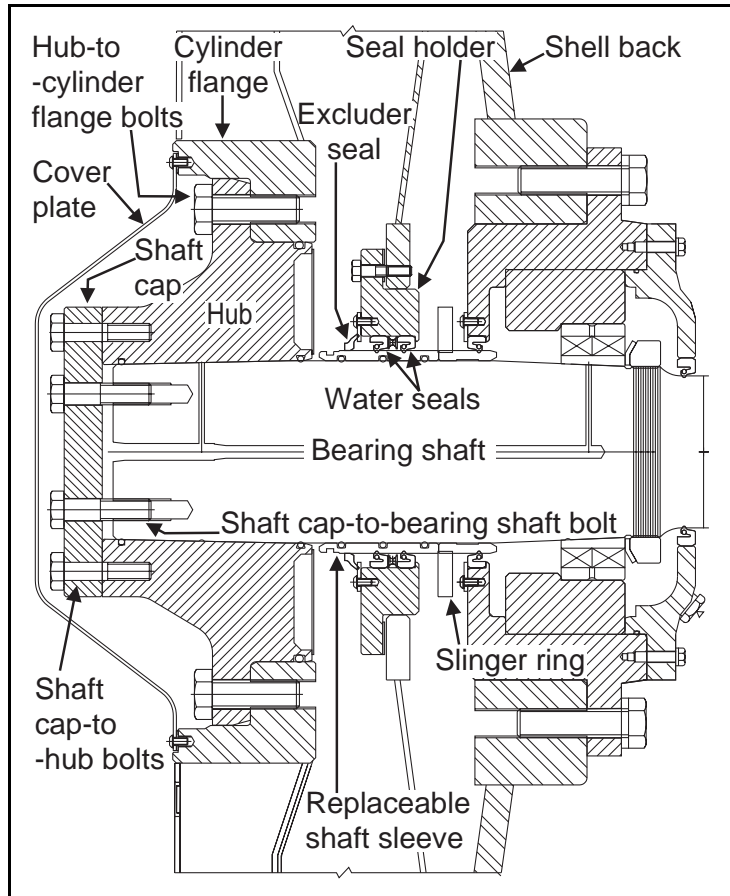

FIGURE 1 (MSSM0275AE)
3. Remove cover plate in the center of the cylinder (FIGURE 1).